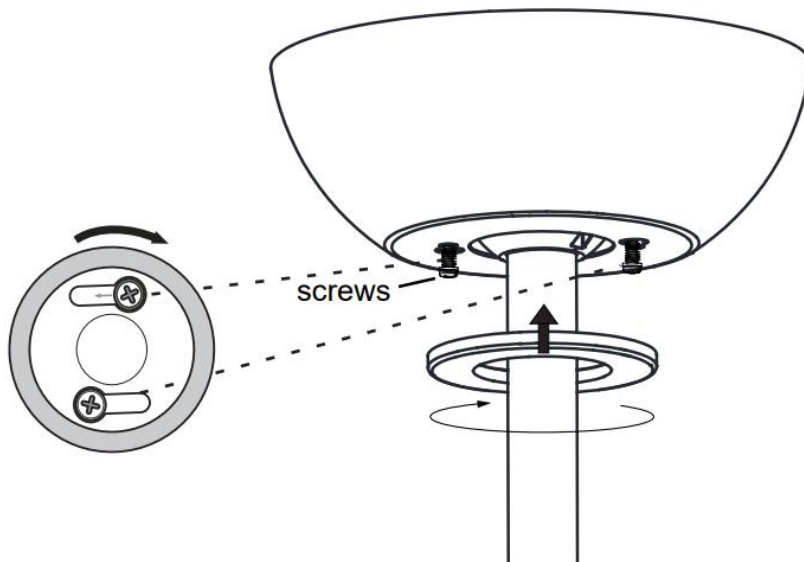

Fig. 10
- Loosen the two screws at the bottom of the mounting bracket by half a thread. (Fig.10)
- Slide the canopy up to the mounting bracket and align the key holes on the canopy with the screws on the mounting bracket. Turn the canopy until it locks into place with the narrow section of the key holes and secure it by tightening the two screws. Avoid damaging the electrical wiring prepared previously. (Fig.10)
- Slide the canopy cover ring up to the canopy and click in to cover the canopy cover screws. (Fig.10)